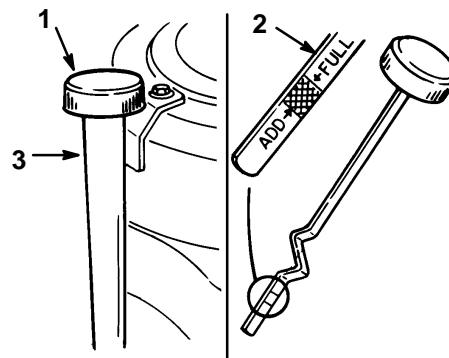

Figure 18
3. Clean around the oil dipstick (Fig. 18) so dirt cannot fall into the filler hole and damage the engine.
4. Unscrew the oil dipstick and wipe the metal end clean (Fig. 18).
5. Slide the oil dipstick fully into the filler tube, do not thread onto tube (Fig. 18). Pull the dipstick out and look at the metal end. If oil level is low, slowly pour only enough oil into the filler tube to raise the level to the “FULL” mark.
7. Slowly pour approximately 80% of the specified amount of oil into the filler tube (Fig. 18). Now check the oil level; refer to Checking Oil Level, page 20. Slowly add additional oil to bring to "FULL" mark on dipstick.